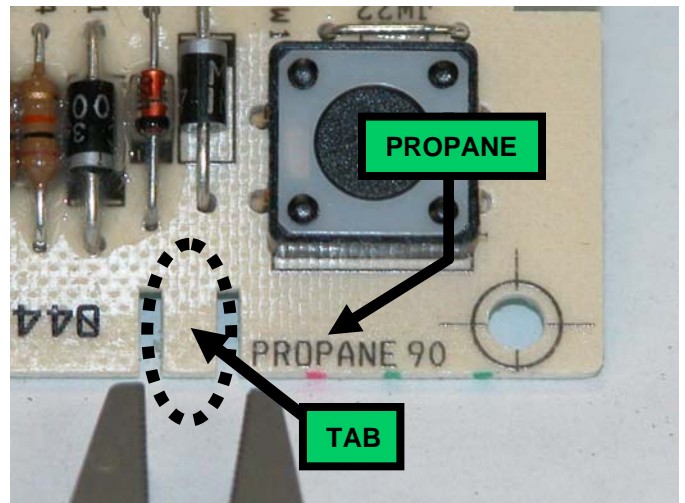
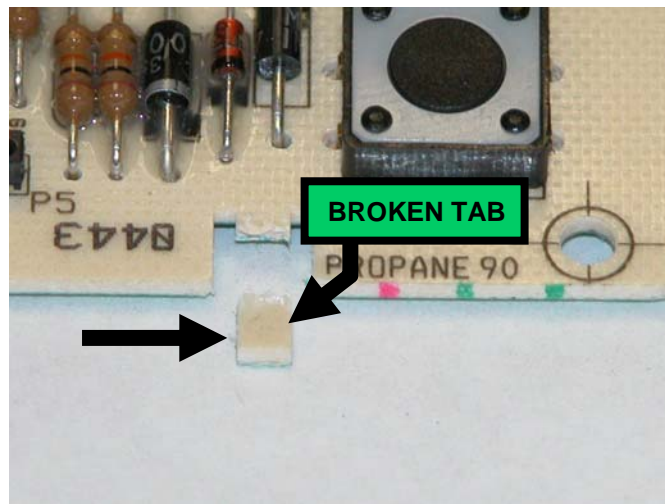

Fig. 13
Fig. 14
2. Break off tab with pliers as shown in **Fig. 13 & Fig. 14**.